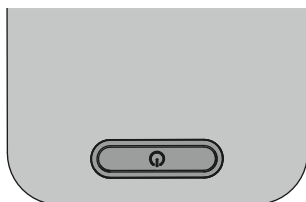

Fig. 5: Switch.
- ▶ Press the switch, see Fig. 5.
- ▶ Press the switch and keep it depressed, see Fig. 5. After about one second, the light will change its brightness.